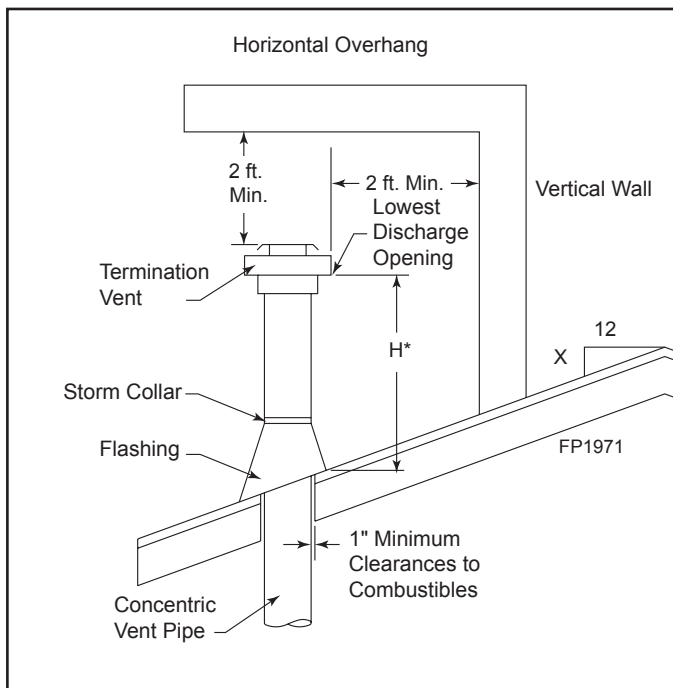

Figure 5.17 Minimum Chimney Clearance
- For the minimum height of the vent above the highest point of penetration through the roof refer to Page 24, Figure 5.17.
6. Continue to add pipe sections until the height of the vent cap meets the minimum building code requirements as shown in Figure 5.17.